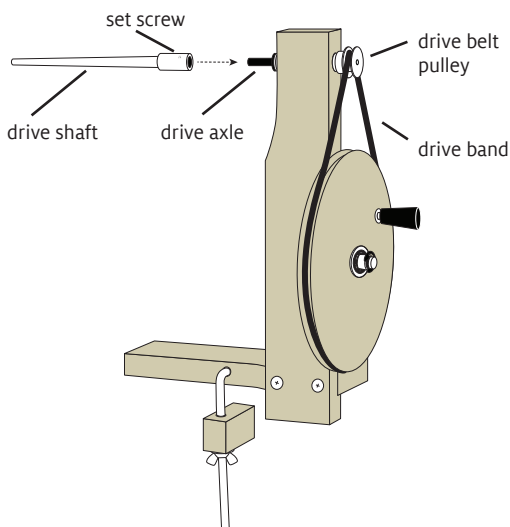

FIGURE 3: INSTALL DRIVE SHAFT (SINGLE END WINDER ONLY)
2. Install the drive band around the shaft pulley and the drive wheel (Figure 3). Double end winders are ready for use; for single- end, continue to the next section.
1. Place the drive shaft on the drive axle at the top of the upright (Figure 3).